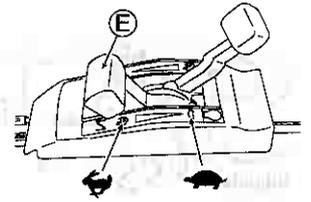

Fig. 13.
- Confirm that there is no person behind you when pulling Starter knob (V).
- Securely grab Starter knob (V) when you pull it.
- Return Starter knob (V) slowly.
- 5 Warm up the machine before use. After the engine has warmed up, start mowing by setting Throttle lever (E) to "S". (See Fig. 13.)